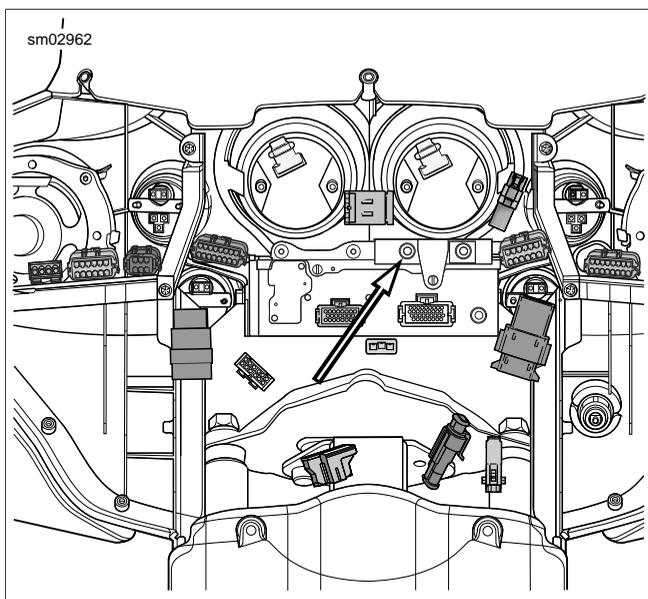

Figure 8-125. CB Antenna Cable Connector [50]
5. Rotate knurled ring to disconnect CB antenna cable connector [50] at back of CB module (right side). See Figure 8-125. Carefully cut cable where it exits audio harness conduit.